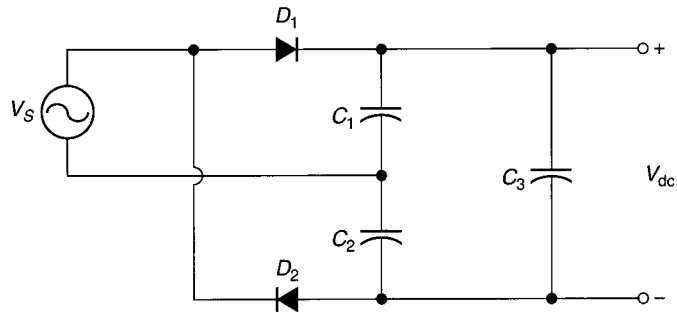

FIGURE 4.39
- 24.** The circuit shown in Figure 4.39 has a  $24\text{ V}_{\text{pk}}$  input signal. Determine the values of  $V_{C1}$ ,  $V_{C2}$ , and  $V_{C3}$  for the circuit. Assume that the diodes are ideal components.
- 25.** The circuit shown in Figure 4.39 has a  $25\text{ V}_{\text{ac}}$  input signal. Determine the values of  $V_{C1}$ ,  $V_{C2}$ , and  $V_{C3}$  for the circuit. Assume that the diodes are ideal components. (*Be careful on this one!*)